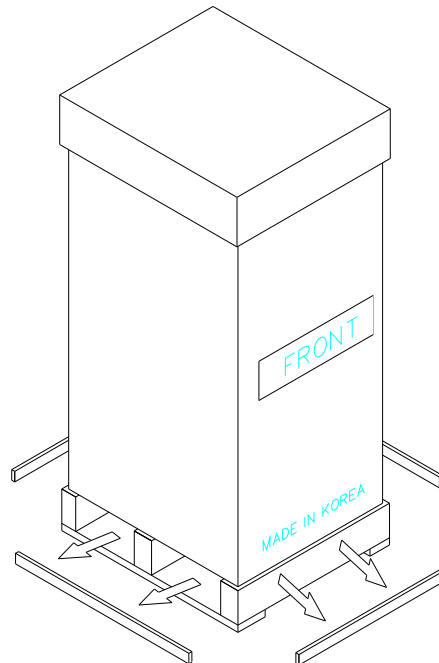

Fig. 4.4
- 3) Use an appropriate tool to remove the nails from the pallette. (refer to Fig. 4.4)